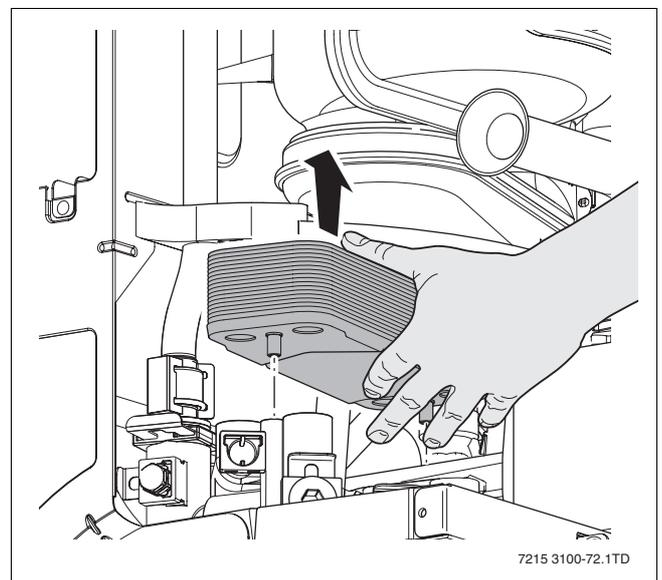

Fig. 77 Remove plate heat exchanger
- Remove the plate heat exchanger (→ fig. 77).